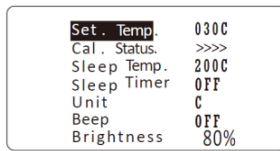

Fig.6
3.2. When Cal. status display ">>>>" (see Fig 6.) · it means "Real Temp." has calibrated and increase temperature.